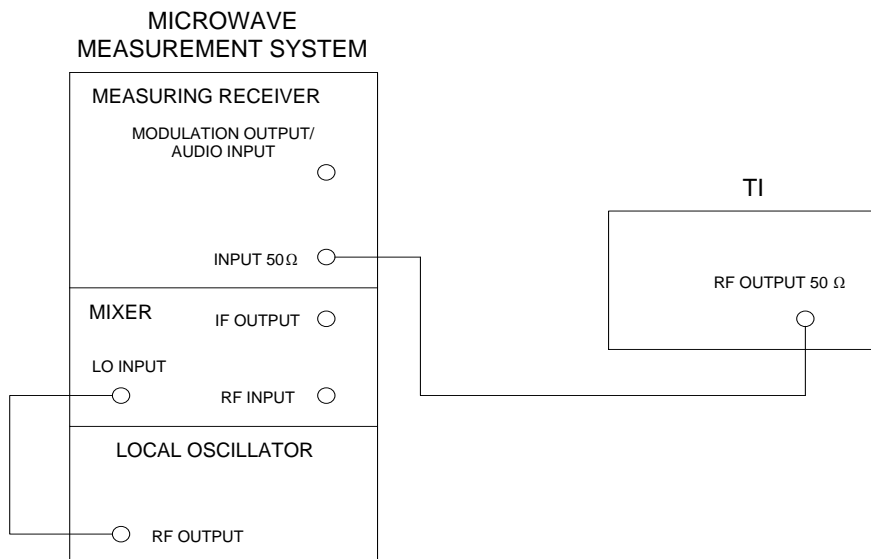

Figure 2.
4.2.17 Connect equipment as shown in Figure 2.